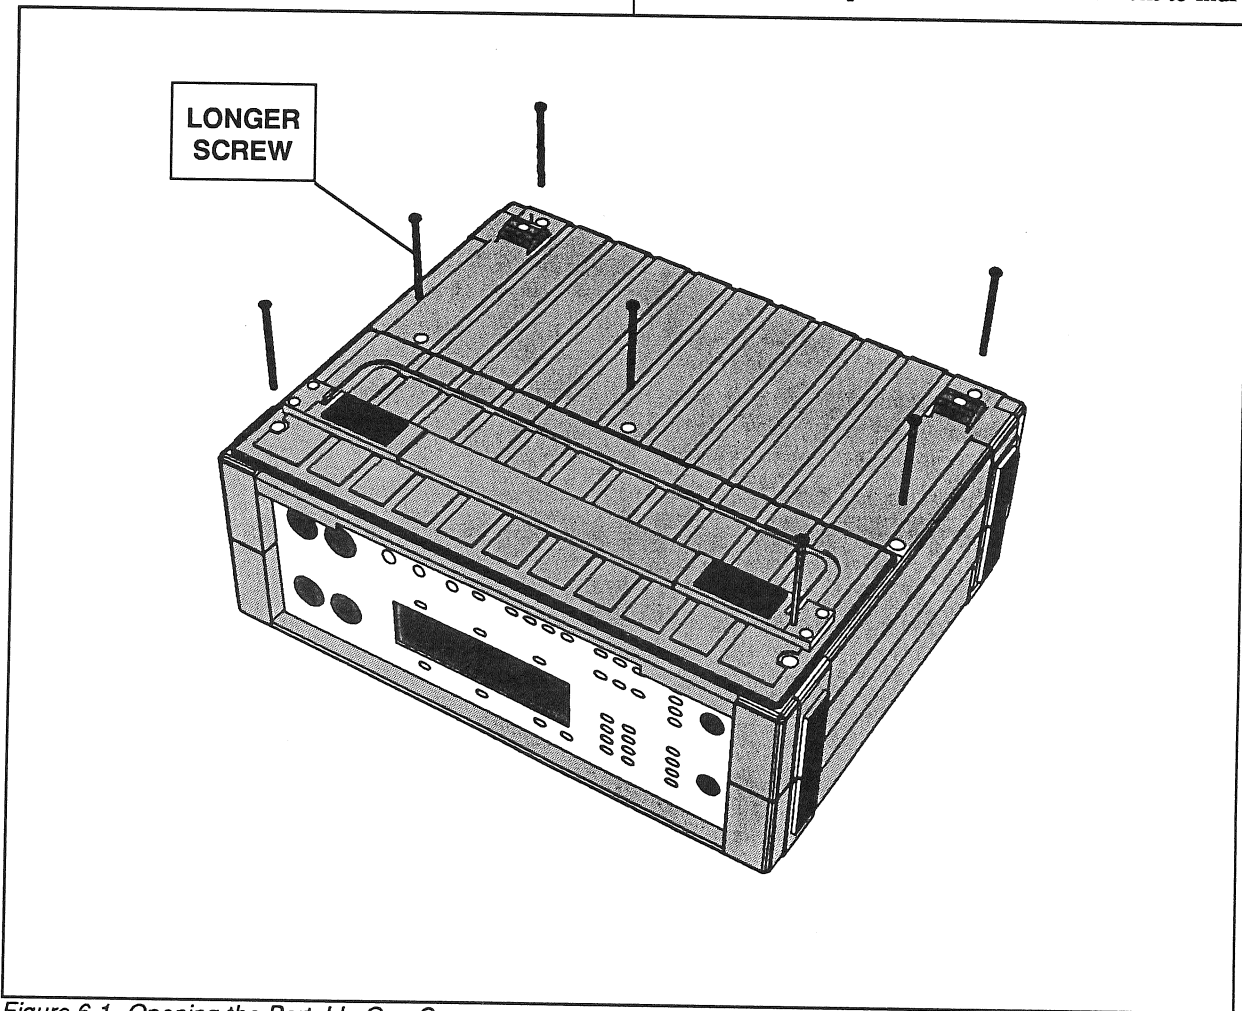

Figure 6-1 Opening the Portable One Case
2. Using a Phillips-head (cross) screwdriver, remove the seven screws recessed into deep holes in the bottom of the instrument (see Figure 6-1). Do not remove the two screws holding on the rear feet or the four small screws holding the tilt bail assembly in place. Note that the screw nearest the handle is longer than the others; it must be replaced in its original location during re-assembly.